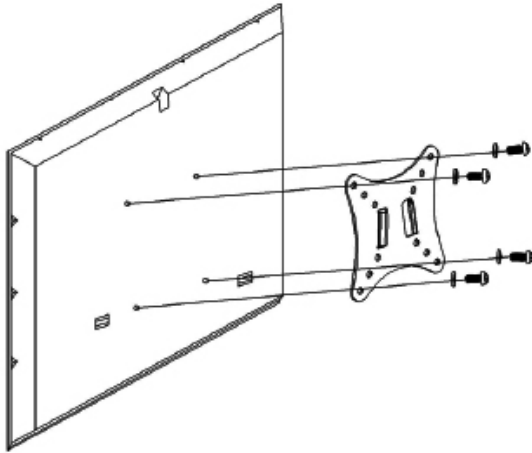

Figure 5
2. According to the size of the display's hole, choose the corresponding screw (E/F/G) and washer (C) and insert into the hole as shown (Figure 5) and tighten. **Note:** When mounting the display plate, make sure the top of the mounting rails are pointed in.